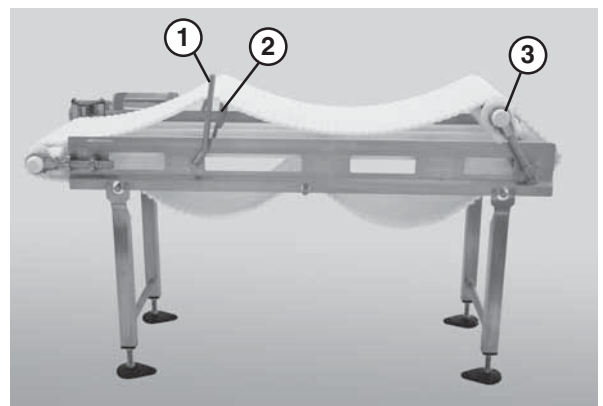

Figure 55
2. Use the lifter handle (Figure 55, item 1) to raise the lifters (Figure 55, item 2) and raise the tip up tail (Figure 55, item 3).